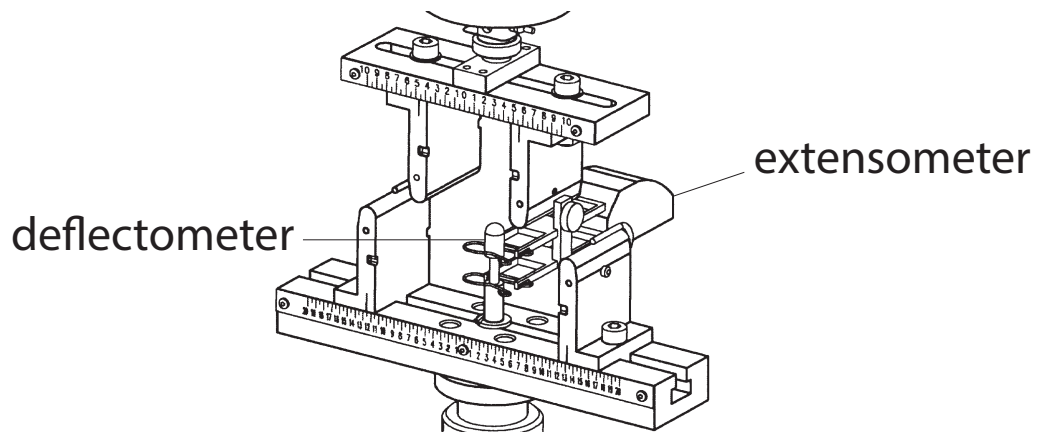

Figure 10. Attach an extensometer to the deflector
2. Attach an extensometer to the deflector. Refer to the extensometer manual for instructions (see Figure 10 on page 24).